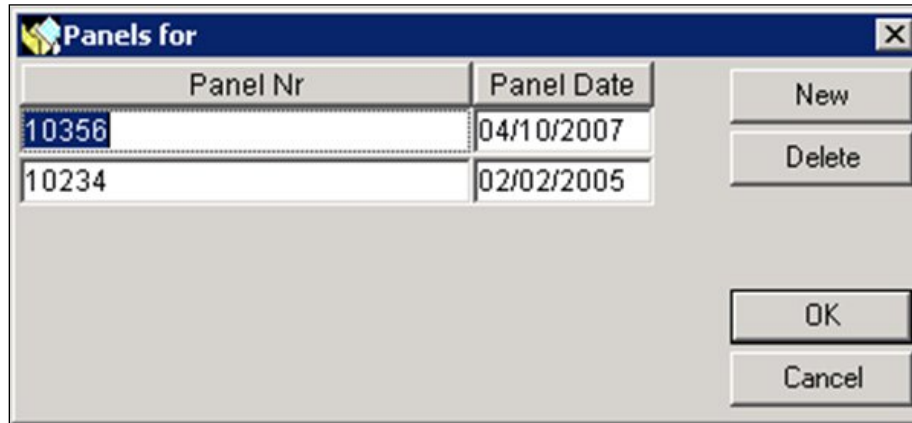

Figure 6-102: New FIRM Panel Number and Date Added
- h. Enter a FIRM Panel Number and the date from the actual FIRM map (Figure 6-102).